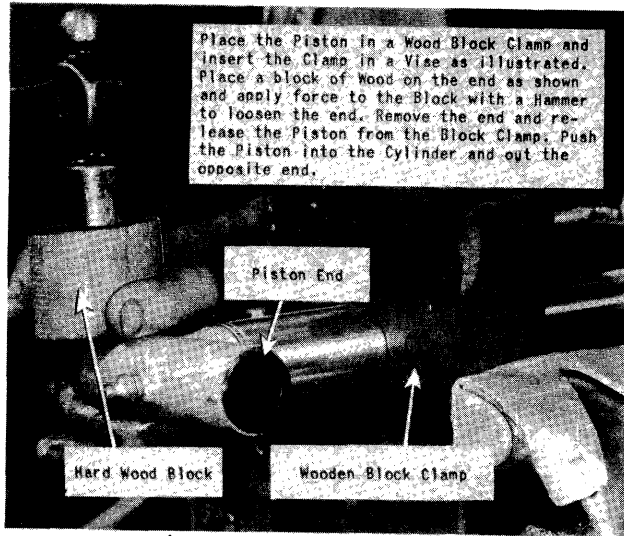

Figure 175 - Removing End from Piston
(5) Remove the cylinder from the vise and wooden block clamps. Extend the piston by standing the strut on the piston end to allow the pawl to slide down the piston rod and disengage the mechanical locks. Pull the piston out of the cylinder far enough to insert the piston in a wooden block clamp and secure the clamp in a vise. (See figure 175.)
(6) Place a hard wood block on the piston end (figure 175) and tap the block with a hammer until the piston end is loosened. Turn the end off the piston and remove the piston from the wooden block clamp.
(9) Release the cylinder from the clamp and reverse the cylinder. Place the end of the piston in a wooden block clamp and secure the clamp in a vise. Thread the piston end onto the piston and tighten with a hard wooden block and light hammer. (See figure 175.)